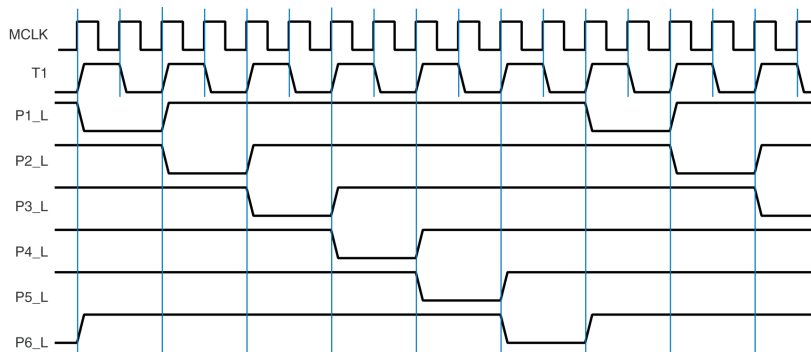

Figure 22: Six-phase timing waveforms required in a certain digital system.
- Fig. 22 shows a set of clock or enable signals that might be required in a digital system with six distinct phases of operation
- To obtain timing of Fig. 22 from a ring counter